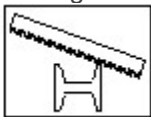

Fig. 5
- If necessary, adjust the rotational speed by actuating the changeover switch (18).
- Verify that the material to be cut is firmly held to prevent any movement (see fig. 5).